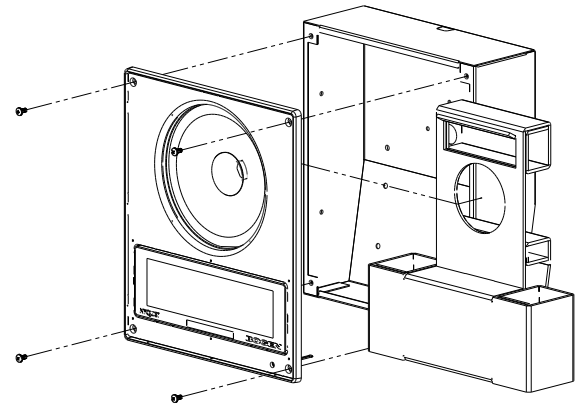

Figure 3: Remove cardboard insert from enclosure.
1. The speaker is packaged with the baffle attached to the enclosure, a grille, and two flush-mount brackets. Remove the four screws that attach the speaker bezel to the enclosure, then remove the cardboard insert from inside the enclosure, as shown in **Figure 3**.